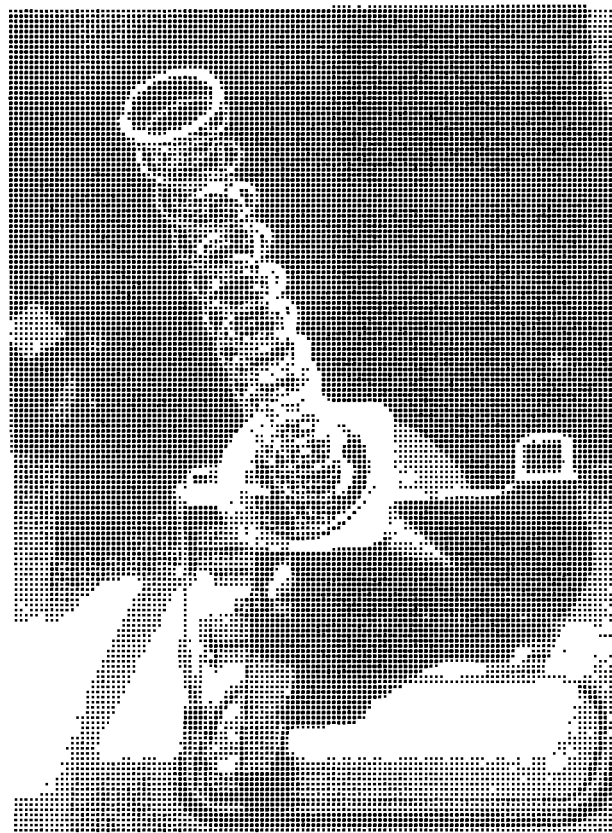

FIGURE 22.
7. Install supplemental seat height spring from kit inside of existing spring in seat base. See FIGURE 22.